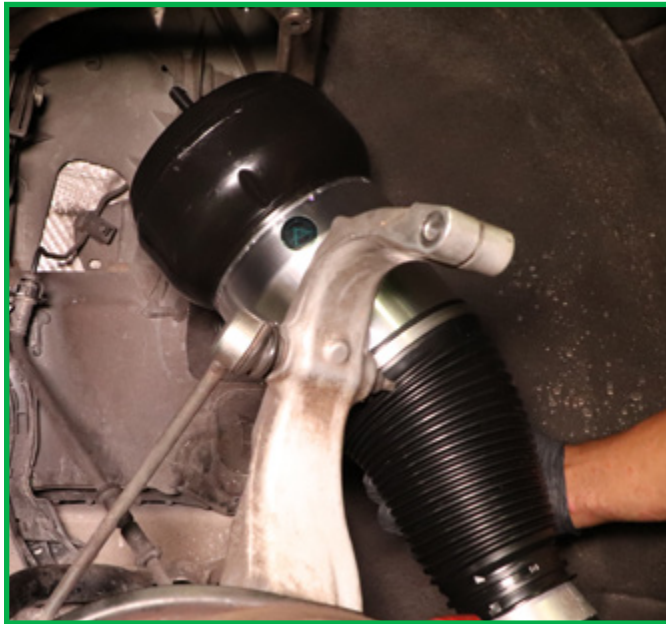

FIGURE 19
2. Install the Arnott strut in the vehicle. (Figure 19)